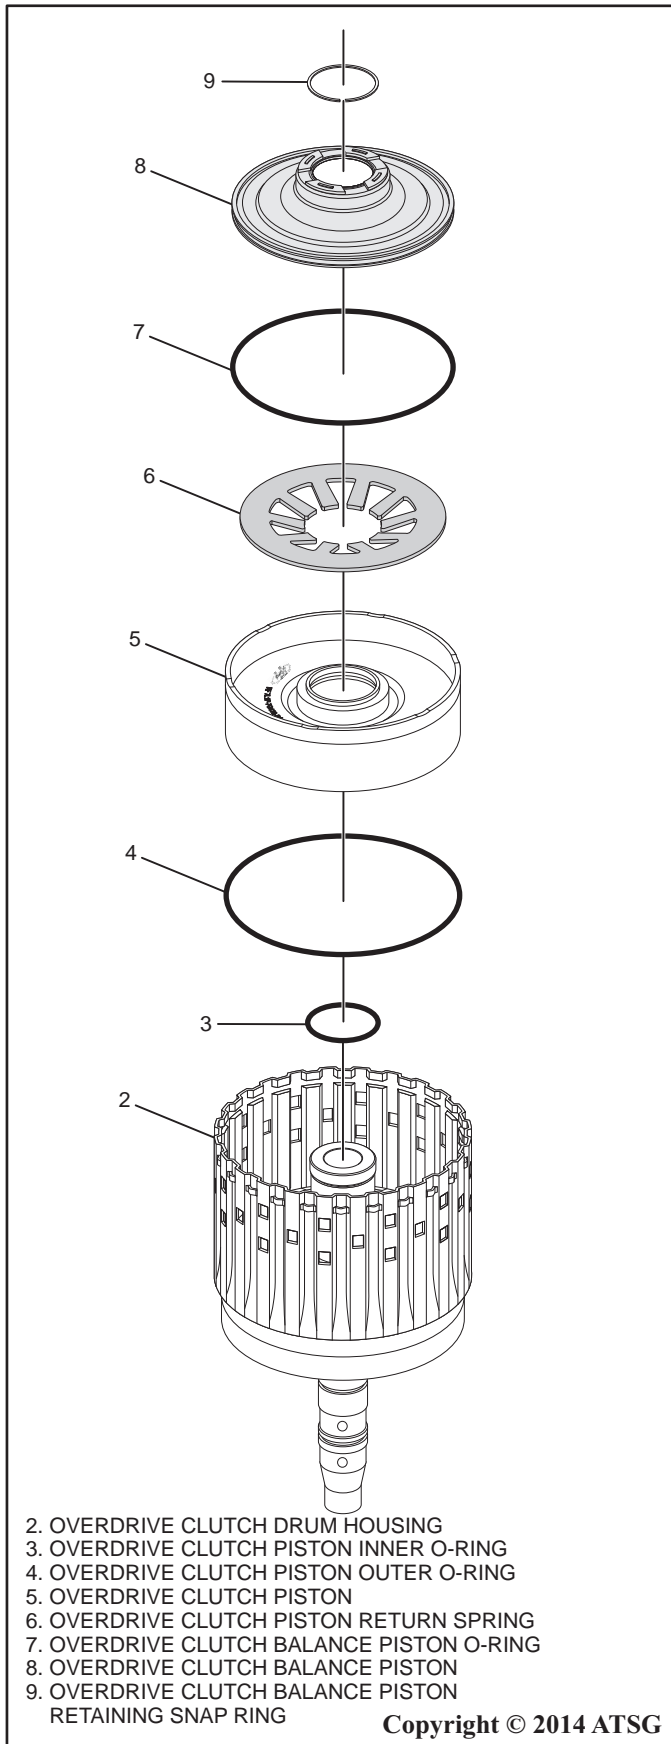

Figure 76
15. Install a new inner and outer o-ring into the overdrive clutch piston and lightly coat them with a small amount of ATF or Trans-Jel® then install the piston into the overdrive clutch housing as shown in Figure 76.
16. Install the overdrive clutch piston return spring into the piston as shown in Figure 76.
17. Install a new o-ring into the overdrive clutch balance piston and lightly coat the o-ring with a small amount of ATF or Trans-Jel® and carefully install the balance piston into the overdrive housing as shown in Figure 76.
18. Using the ST Spring Washer Compressor 307-209 or similar compressing tool and a press, compress the balance piston and install the overdrive clutch balance piston retaining snap ring as shown in Figure 76.